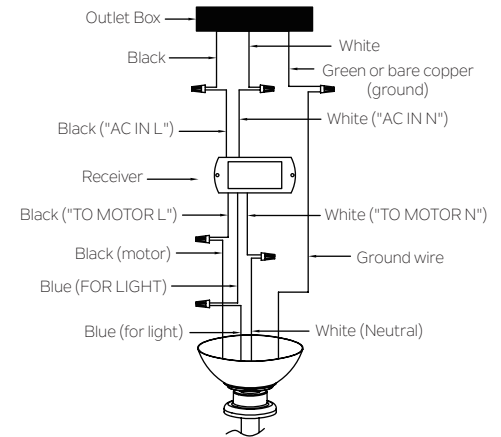

Fig. 14
Connect the BLACK wire from the fan to BLACK wire marked "TO MOTOR L" from the receiver. Connect the WHITE wire from the fan to the WHITE wire marked "TO MOTOR N" from the receiver. Connect the BLUE wire from the fan to the BLUE wire marked "FOR LIGHT " from the receiver. Secure all the wire connections with the plastic wire connectors provided. (Fig. 14)
Connect the BLACK (hot) wire from the ceiling to the BLACK wire marked "AC IN L" from the receiver. Connect the WHITE (Neutral) wire from the ceiling to the WHITE wire marked "AC IN N" from the receiver. Secure all the wire connections with the plastic wire connectors provided. (Fig. 14)
Step 4. If your outlet box has a ground wire (green or bare copper) connect it to the fan ground wires : otherwise connect the fan ground wire to the mounting bracket. Secure the wire connection with a plastic nut provided. After connecting the wires, spread them apart so that the green and white wires are on one side of the outlet box and black and blue wires are on the other side. (Fig. 14)